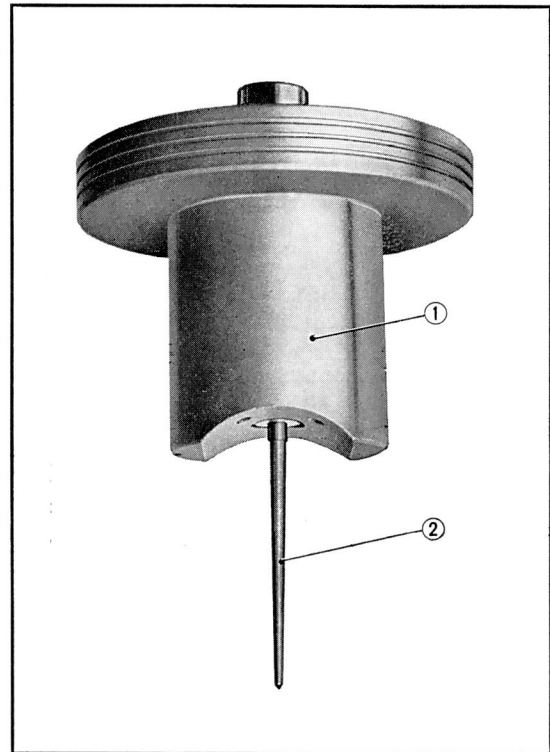
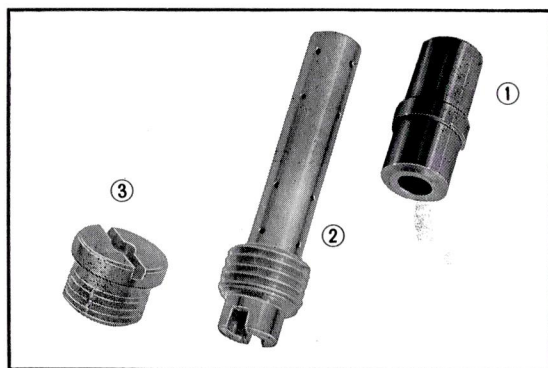

Fig. 3.124 Vacuum Piston
Fig. 3.126 Main jet, needle jet holder, and needle jet
- ① Gasket
- ② Valve seat
- ③ Valve
- ④ Float
from the needle jet. (Fig. 3.126). When the vacuum piston is fully closed (when it works as the primary venturi) or when the vacuum piston is half closed, the tapered portion of the jet needle installed on the vacuum piston (16) squeezes the fuel in order to prevent excessive fuel passage from the needle jet. (Fig. 3.124)